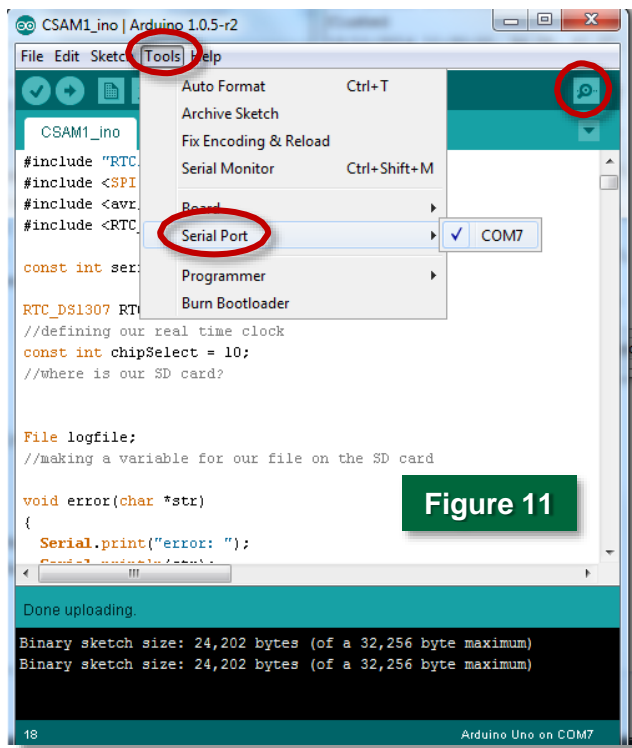
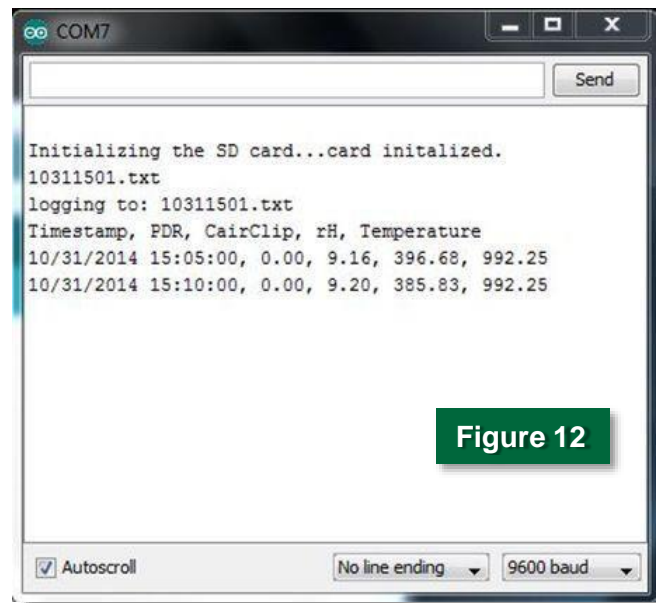

Figure 11
Figure 12
5. On the **Tools** tab, click **Serial Port** in order for the software to detect the connected CSAM (Figure 11).
6. Click the magnifying glass in the top right corner (Figure 11) to open a window where the data are reported on the screen in 5-minute averages, as shown in Figure 12.